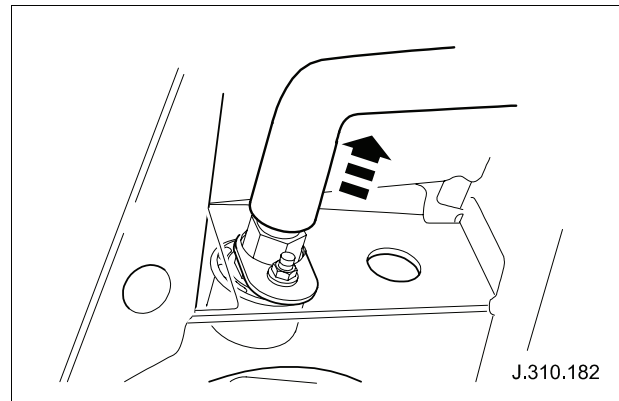

Fig. 6
- 20 Disconnect the EVAP canister vent hose from the original filter (see Fig. 6).